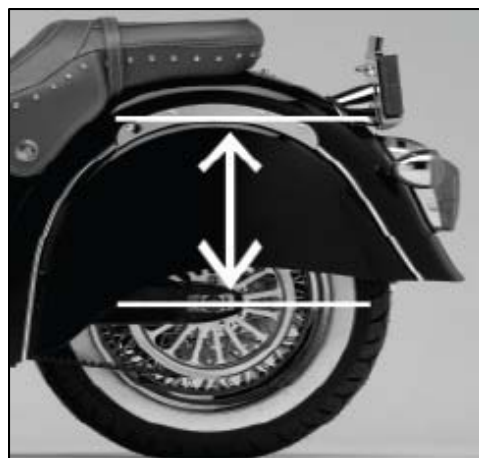

Figure 15: Measuring Suspension Sag
Place a piece of masking tape on the fender directly over the rear axle (See figure 15).
2. Place a piece of masking tape on the fender directly over the rear axle (See *figure 15*).